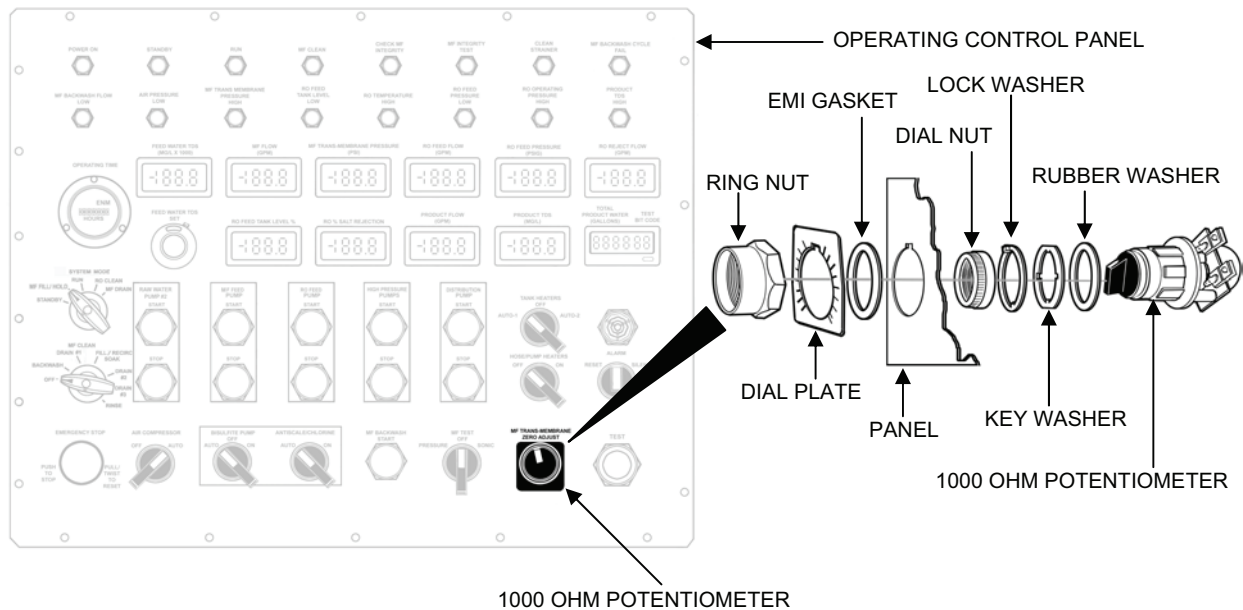

Figure 14. 1000 Ohm Potentiometer Assembly Replacement.
- a. Remove the 1000 ohm potentiometer as follows (see Figure 14):